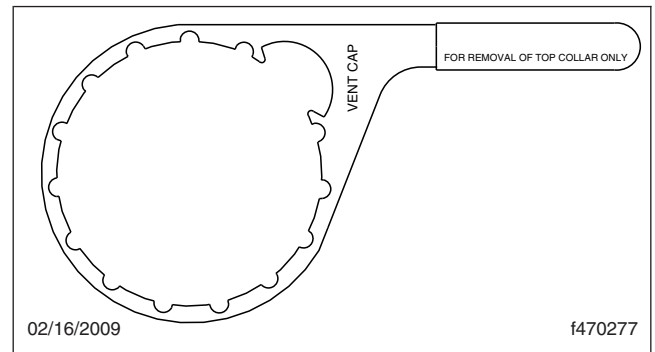

Fig. 3, DAVCO Collar Wrench
5. Using a DAVCO Collar Wrench (**Fig. 3**), remove the clear cover and collar.
5. Using a DAVCO Collar Wrench, shown in **Fig. 3**, remove the clear cover and collar.